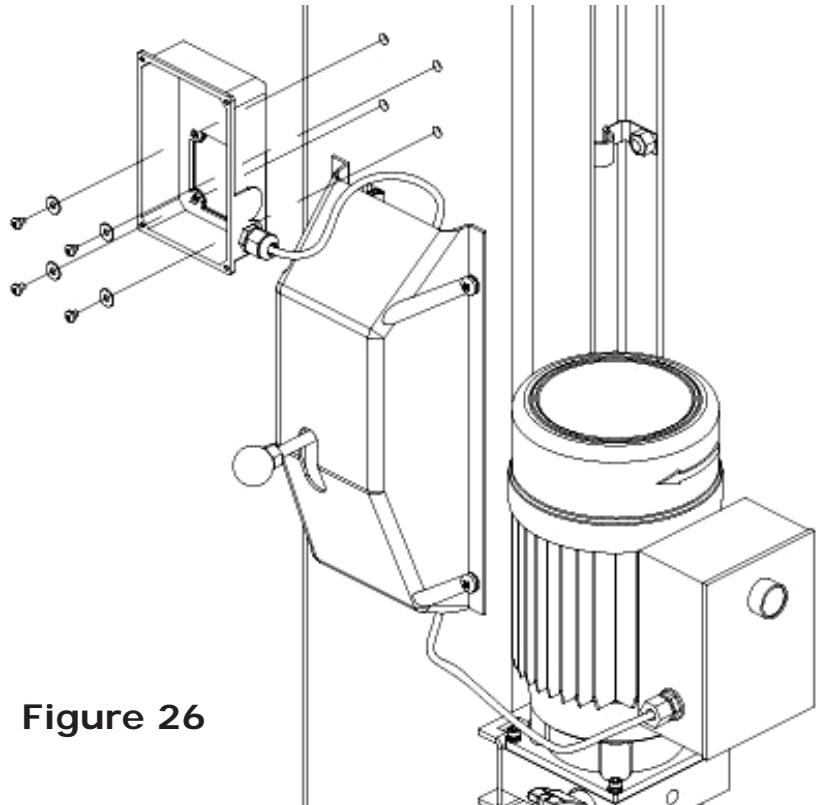

Figure 26
- For the single phase power unit, make sure to mount the supplied capacitor box on the power-side column as shown in the figure 26;